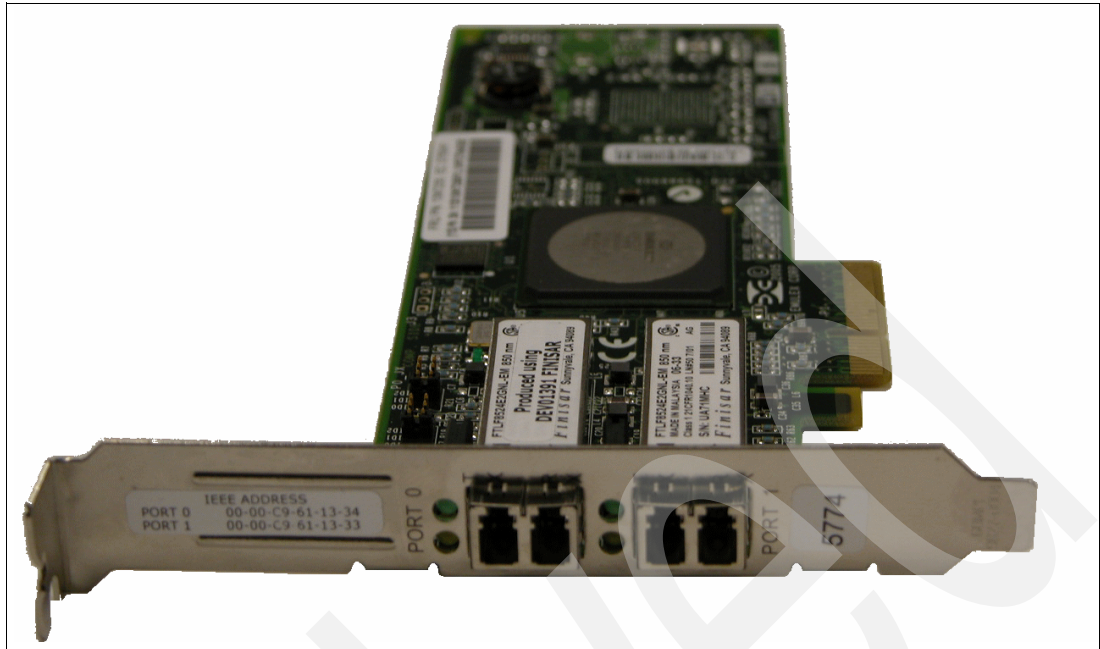

Figure 3-5 New 5774 PCIe IOP-less Fibre Channel Disk Controller
- ▶ FC 5774 / CCIN 5774 4 Gigabit Dual-Port IOP-less Fibre Channel Controller PCIe (see Figure 3-5)